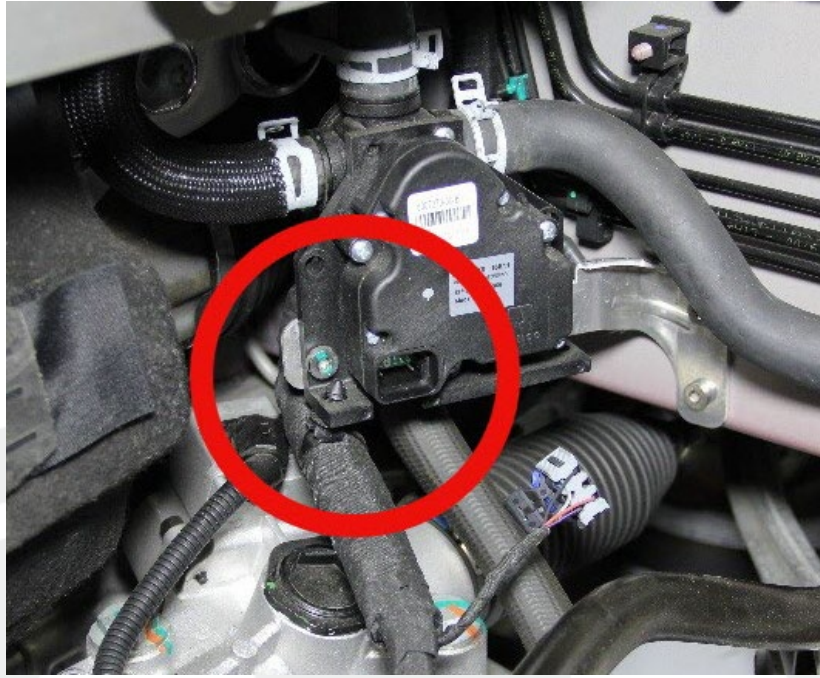

Figure 8
11. Remove and discard the clip that attaches the front body harness to the 4-way coolant valve (Figure 8).